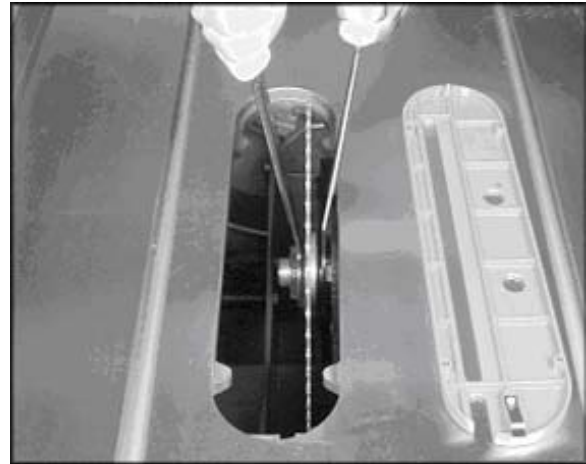

Figure 25
3. Use the two provided arbor wrenches to loosen the arbor nut, as shown in Figure 25. Place one wrench on the arbor nut and one on the flats located on the arbor. Remove the nut, flange and blade.